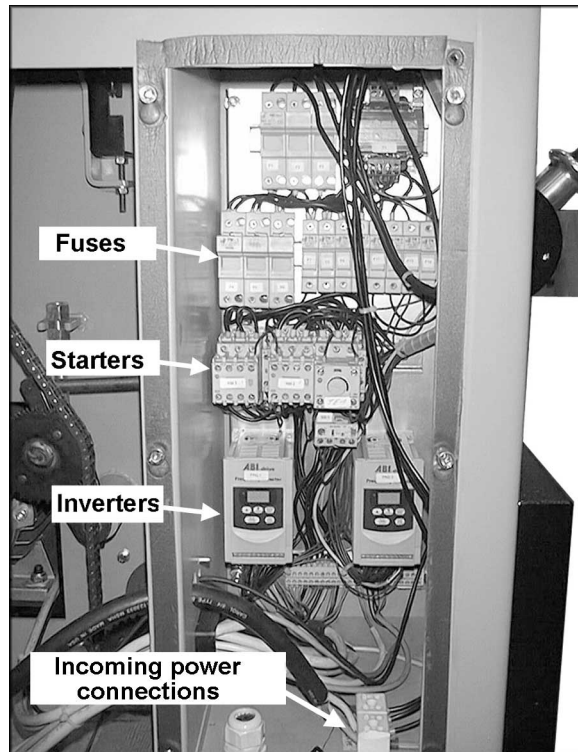

Figure 3
3. Open the electrical enclosure on the left side of the machine (Figure 3) by loosening the screws and sliding the panel upward.
2. Push the Main Motor Start button; the motor will start in Star-Delta. After a few seconds you will hear the motor switch over to full speed operation. NOTE: The inverters (see Figure 3) have been factory programmed and their settings should not be altered.